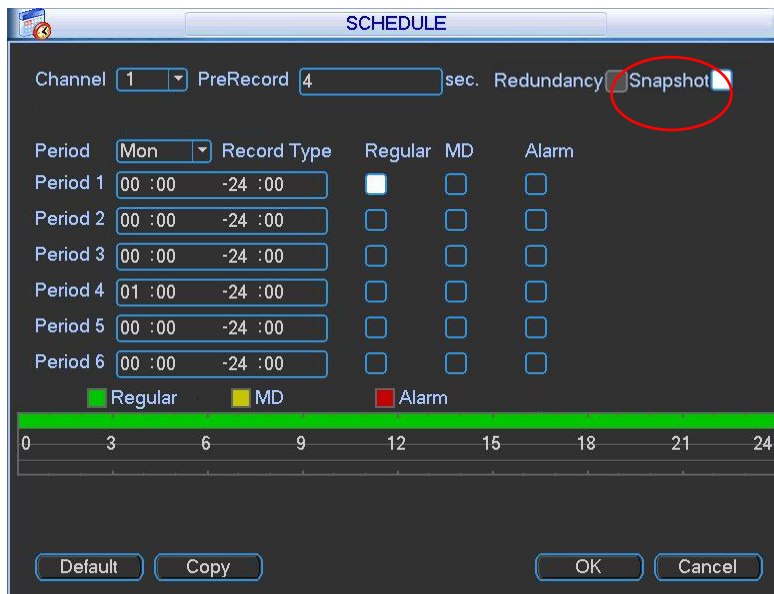

Figure 4-44
- In Schedule interface, please enable snapshot function. See Figure 4-44.